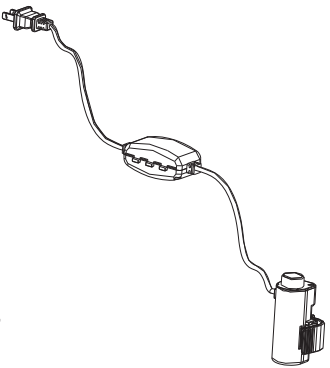

Fig.3
2. Identify components (Ref. Fig.3)